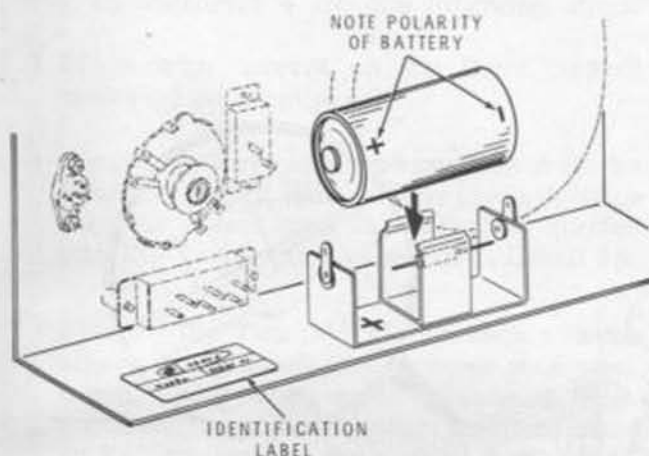

Figure 2
( ) Install the D cell (1-1/2 volt battery) in the battery holder. Position the positive (+) end of the battery to the positive (+) terminals of the battery holder. Refer to Figure 2. Make sure the metal parts of the test leads are not touching each other.
- ( ) Remove the backing paper from the blue and white identification label. Place the label on the inside of the chassis as shown in Figure 2.